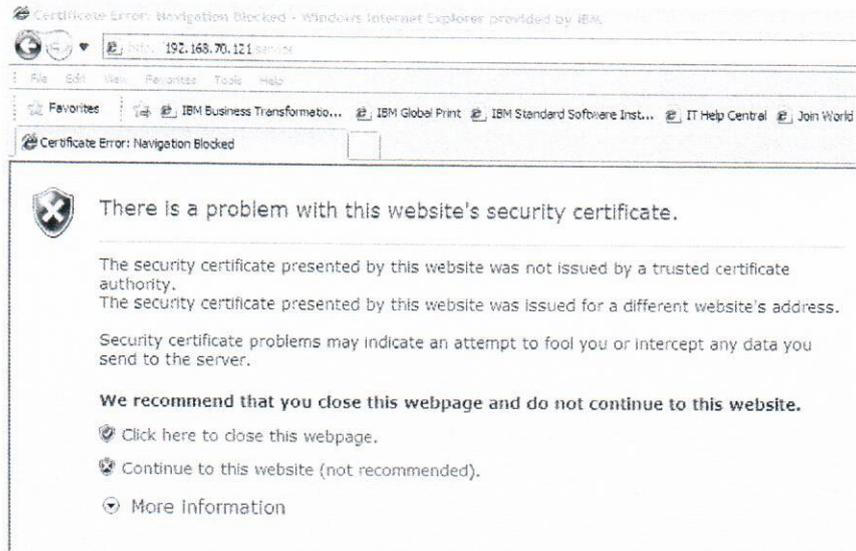

Figure 9 Security warning window
- 12) You may receive a security warning window (Figure 9)